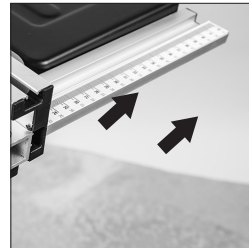

Fig. 14
- If adjustment is needed, gain access to the two socket headed screws through the two holes in the carrier. (**Fig. 14**)